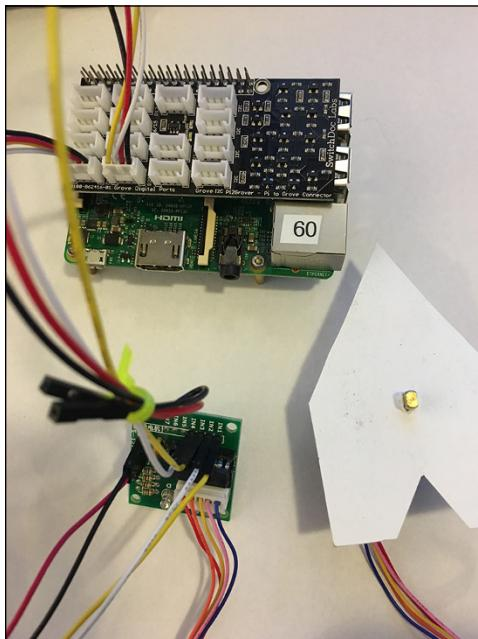

FIGURE 4-22:
6. **Put a cardboard arrow on your stepper motor shaft so you can really see it move. (See Figure 4-22.)**